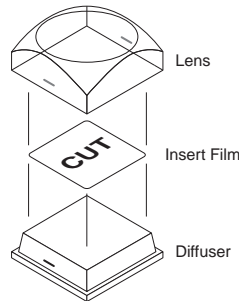

Figure 3.20 Installing the Insert Film into the Cap Assembly
3. Place the **Insert Film** into the **Lens** so that the readable side is facing up. The notches on the sides of the **Lens** must be at the sides of the text on the **Insert Film**, and not on the top or bottom (**Figure 3.20**).
4. Aligning the notches on the sides of the **Lens** and **Diffuser**, press the **Lens** and **Diffuser** together until they click together (**Figure 3.20**).